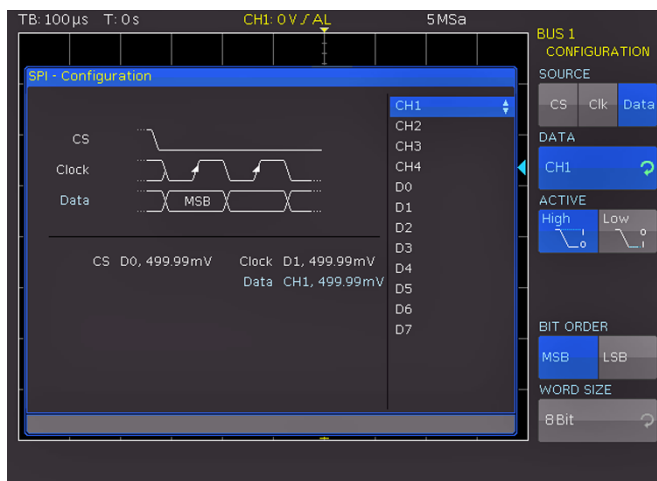

Fig. 13.13: Menu for the definition of a SPI bus
Use the top soft menu key SOURCE to select the respective channel for chip select (CS), clock (Clk) and data. Select the respective soft menu key CS, Clk or Data (key will be highlighted in blue) and then use the soft menu key DATA and the universal knob to select the respective source channel. For the 2-wire SPI, select the possible TIME OUT instead of a chip select source. During the time out, data and clock line are at Low. When the time out has been reached, a new frame begins. If the time intervals between the data packets are shorter than the time out, these packets belong to the same frame. You can select the dead time via universal knob or via numeric input (KEYPAD button). A small window provides information about the current settings (see fig. 13.13).